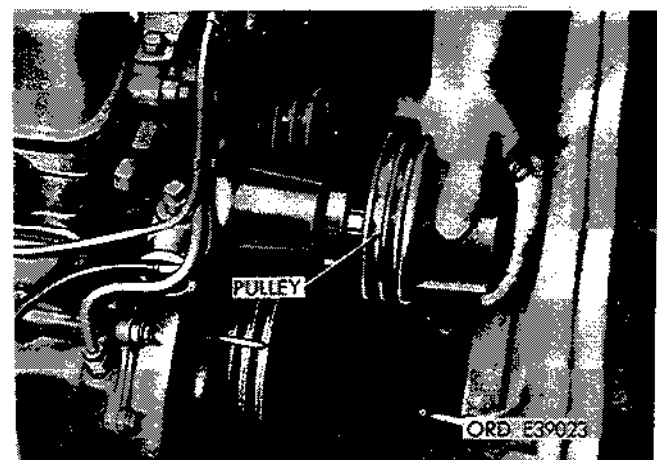

Figure 2-141. Remove fan pulley.
(4) Remove fan pulley (fig. 2-141).